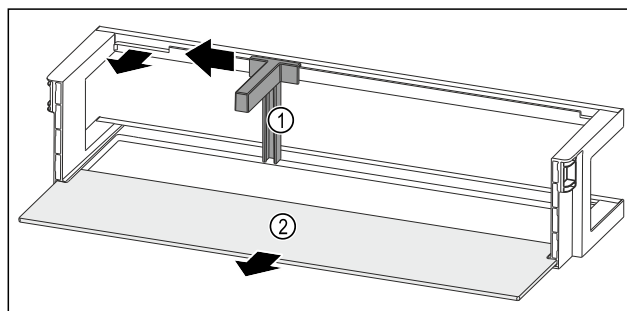

Fig. 240 Door rack with bottle holder and shelf
- Slide the bottle holder Fig. 240 (1) to the side as far as the recess.
- Remove the bottle holder Fig. 240 (1).
- Remove the shelf Fig. 240 (2).